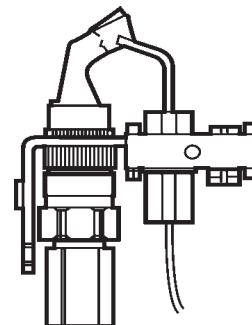
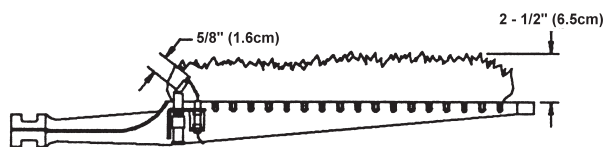

FIGURE 15
FIGURE 16
- The pilot flame should envelop sensing device with 5/8" (1.6cm) flame, fig. 16. Remove pilot adjustment cover screw, fig. 15. Turn inner adjustment screw clockwise to decrease, or counterclockwise to increase pilot flame. Be sure to replace cover screw on gas valve after adjustment to prevent possible gas leakage.
The main burner, fig. 16, should display the following characteristics:
At least once a year, check the pilot burner, fig. 15, and the main burner, fig. 16, for proper operation. Refer to the following pilot and main burner sections.